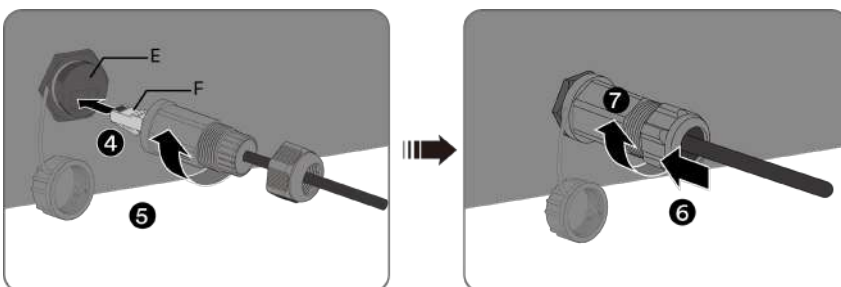

Fig. 47. Connect the network cable
- 7.Screw the swivel nut onto the threaded sleeve.(see Fig. 47)